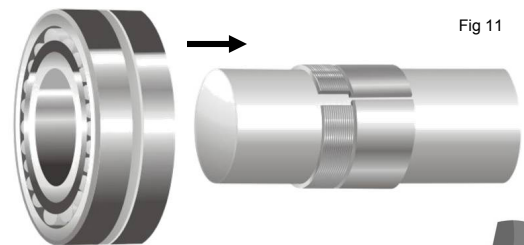

Fig 11
7. Place the bearing on the adapter sleeve starting with the large bore of the inner ring to match the taper of the adapter (Fig. 11). **Note: The lock washer should NOT be used during the tightening process. It should be installed only after the bearing is tightened with the recommended internal clearance.** Use the Lock Nut to snug the bearing onto the adapter. Position the bearing and adapter at the desired axial position on the shaft. Gently oil lubricate only the adapter threads and face of the nut that will contact the bearing inner ring.